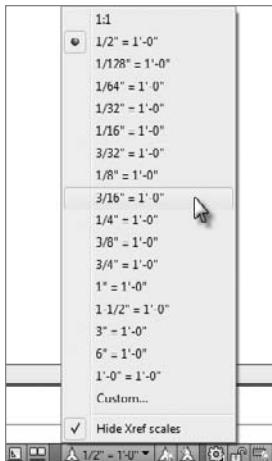

FIGURE 8.16 Changing the annotation scale from the status bar
3.  Click the Annotation Scale button found on the status bar, and change the scale to $\frac{3}{16}'' = 1'-0''$, as shown in Figure 8.16.